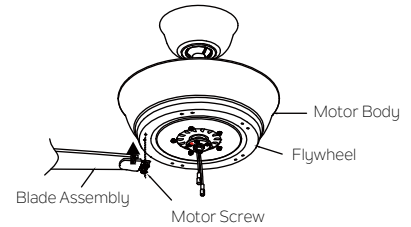

Fig. 20
**Step 2.** Fasten blade assembly to the holes located on the bottom of the flywheel. Tighten the two "pre- installed" motor screws in the blade arm. Repeat steps for the remaining blades assemblies.(Fig. 20)